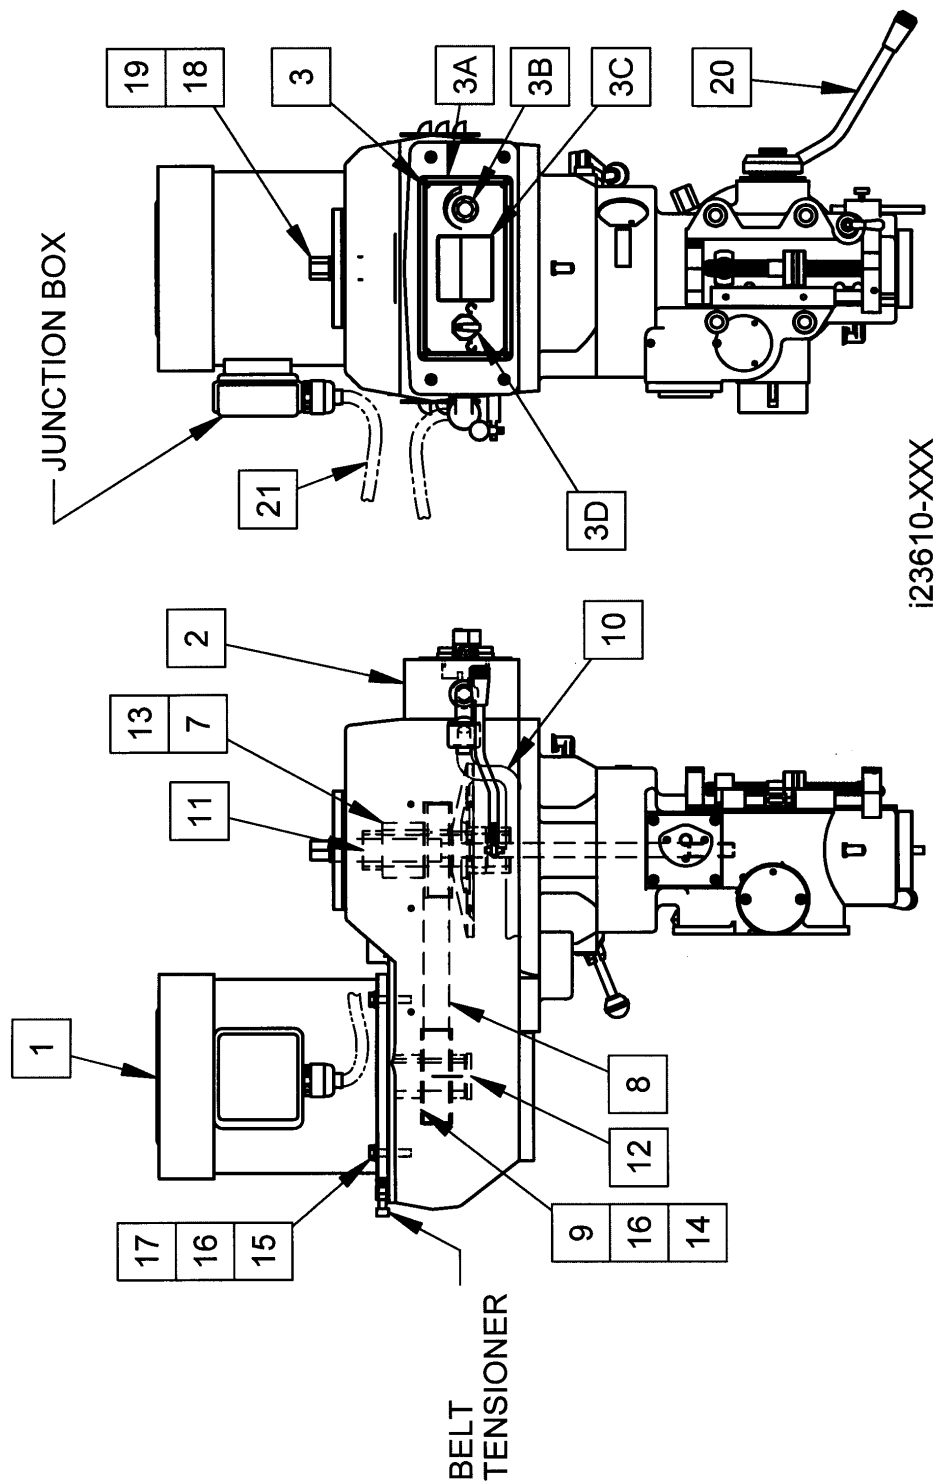

Figure 5-34b - DPME2 - Spindle Head
5.1.18.2 Spindle Motor Removal & Replacement – Spindle Control DPME2 only (refer to Figure 5-34b, Item 1)
Parts List - DPME2 - Spindle Head (Figure 5-34b)